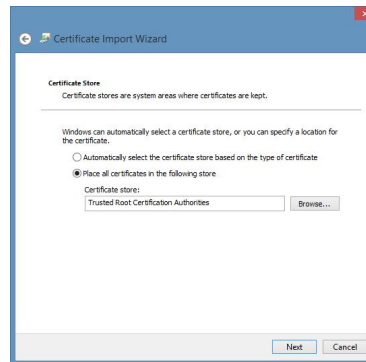

Figure 86: Certificate import wizard - trusted root certification
7. Select the option for **Place all certificates in the following store**, then click **Browse** (see Figure 86).